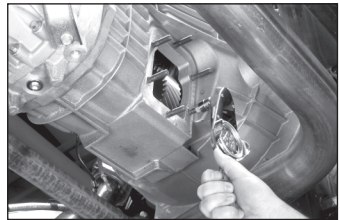

Fig. 3
4. Install the six studs and torque to 17-19 lbs. ft. [23-26 N.m] (Fig. 3).